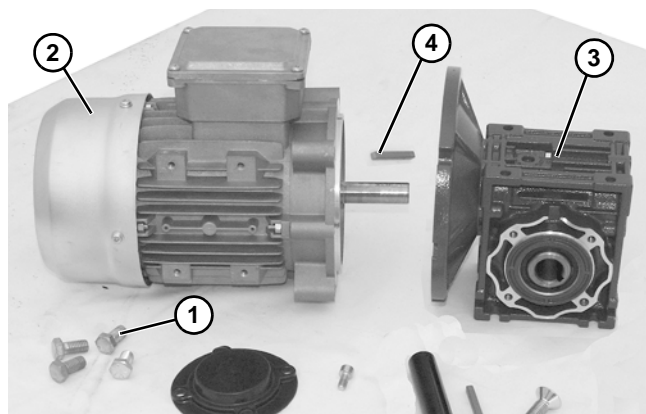

Figure 28
3. Remove four screws (**Figure 28, item 1**). Detach motor (**Figure 28, item 2**) from gear reducer (**Figure 28, item 3**). Retain shaft key (**Figure 28, item 4**).
12. Apply anti-seize to motor shaft before assembling to gearbox. With key (**Figure 28, item 4**) in keyway, slide motor (**Figure 28, item 2**) and gear reducer (**Figure 28, item 3**) together. Install screws (**Figure 28, item 1**) and tighten.